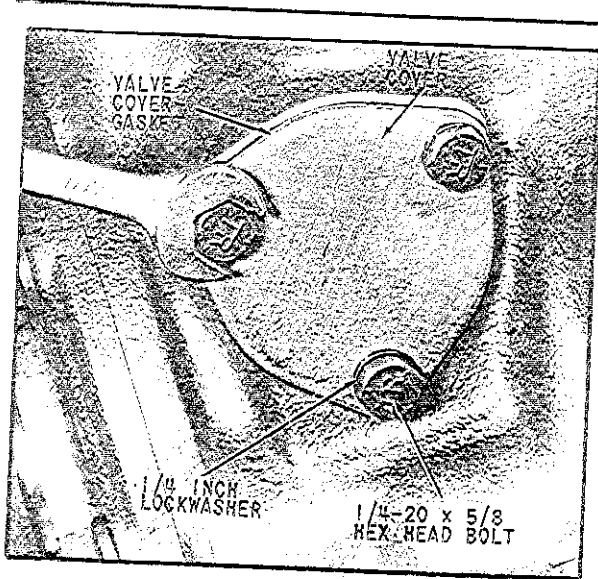

Fig. 74 Assembly of Valve Cover
75. Assemble the valve cover gasket, valve cover, lockwashers and hex head bolts as indicated in (Fig. 74). Torque hex head bolts to 8-11 pounds-feet.